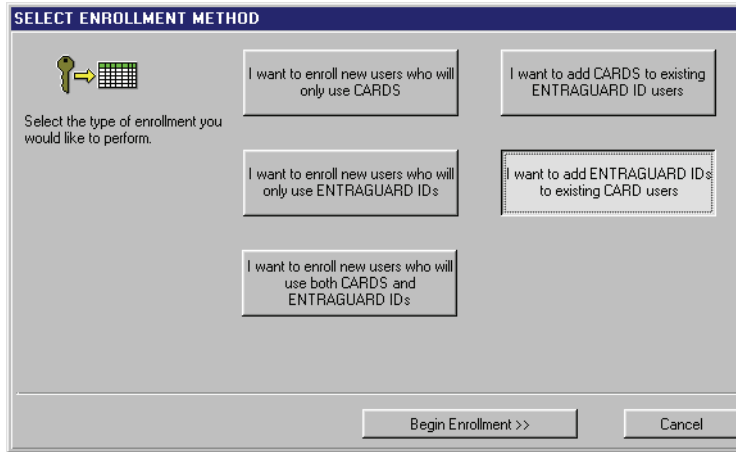
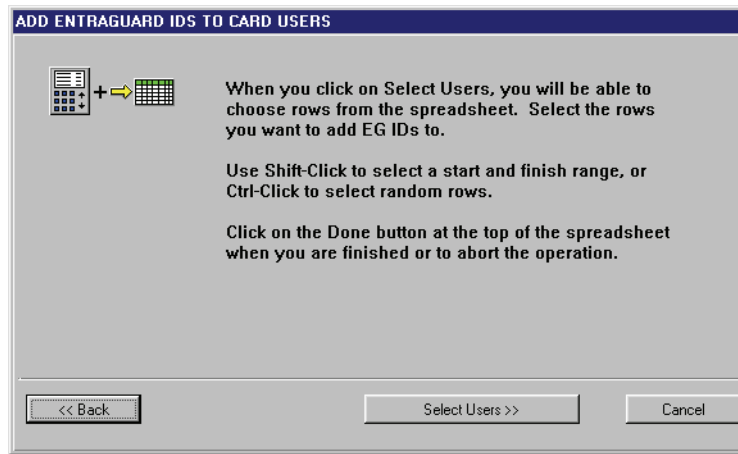

Figure 10-31: Select Enrollment Method Window - Add EntraGuard User IDs
Figure 10-35: Add EntraGuard IDs To Card Users Window
3. Click on the  button. If the Doors program is not connected to the access control network, the program will automatically connect. The Select Enrollment Method window appears (see Figure 10-31 on page 24 of this section).
- Once you have made your enrollment selections and clicked on the  button, the Add EntraGuard IDs To Card Users window will appear (see Figure 10-35).
- The confirmation display shows the number of User IDs you are about to enroll. Take a moment to verify this number is correct. If this number is incorrect, click on the  button to return to the Add EntraGuard IDs To Card Users window (see Figure 10-35 on page 26 of this section), or the  button to return to the Select Enrollment Method window (see Figure 10-31 on page 24 of this section).